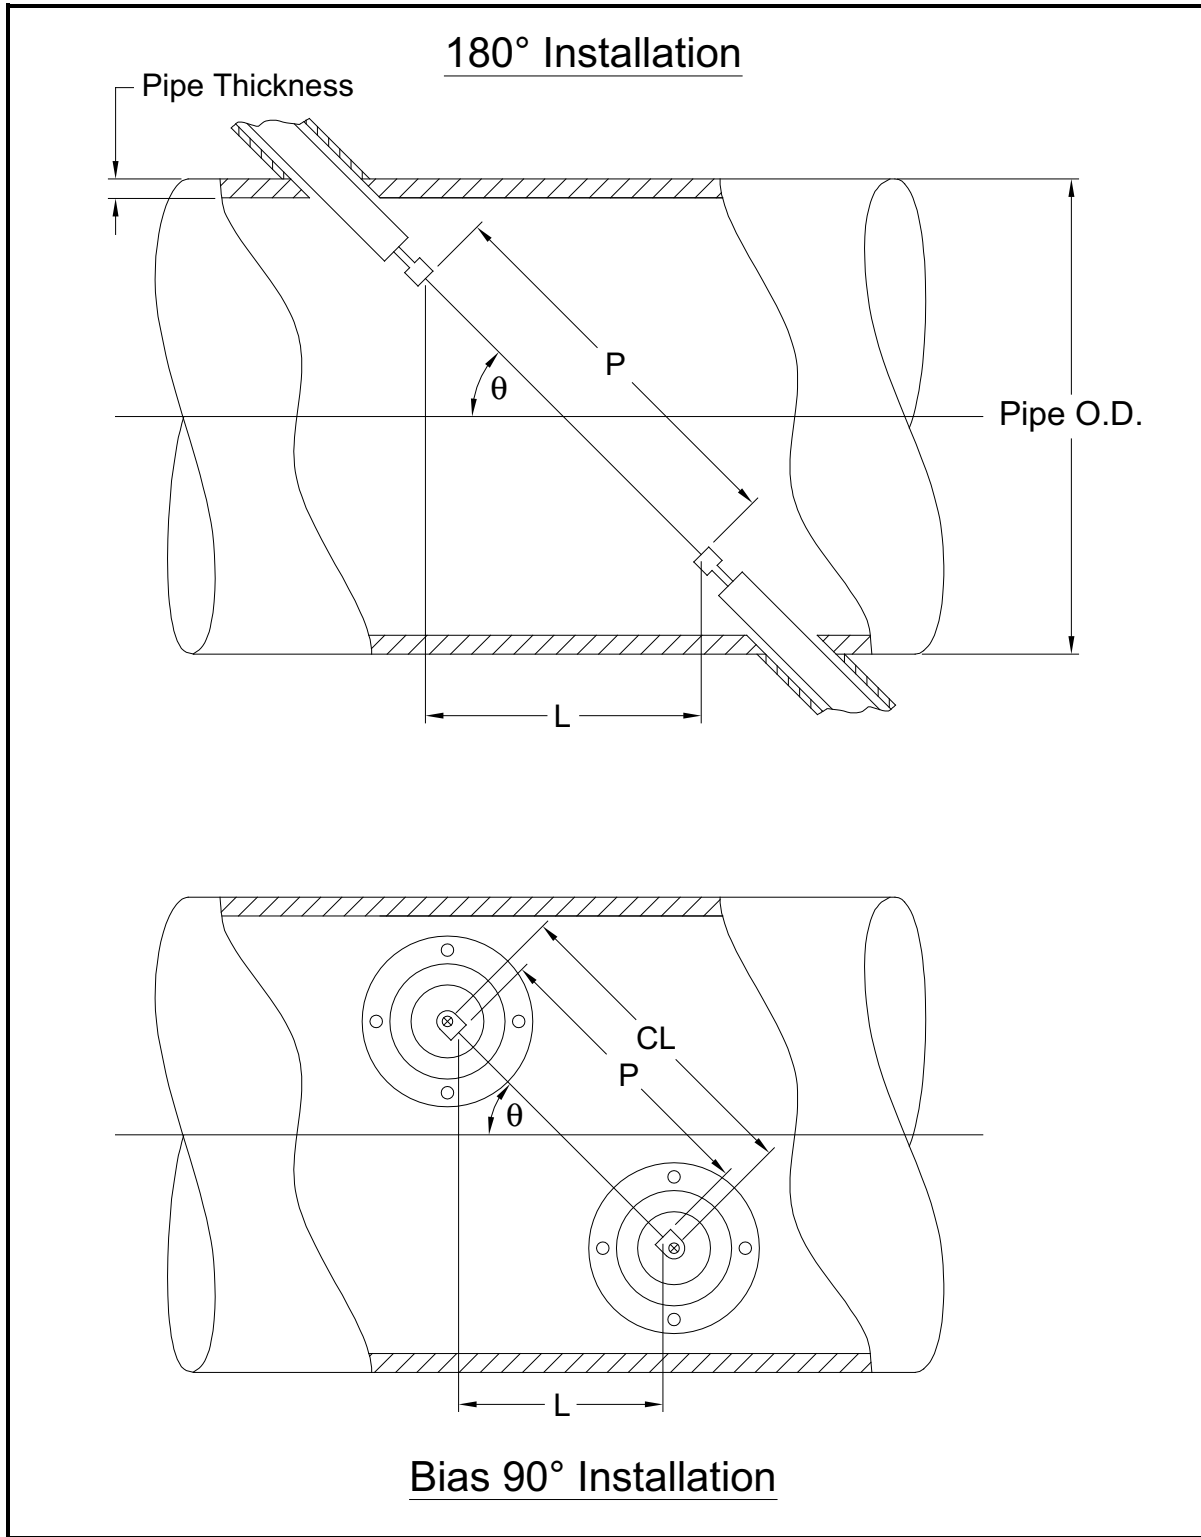

Figure 18: Top View of Typical Transducer Installations
The accuracy of the programmed P and L values is critical to precise flow rate measurements. If GE supplies the flowcell for the system, the correct values will be included in the documentation supplied with the system. For transducers installed on an existing pipe (see Figure 18 on page 66), P and L must be measured at the site. This appendix provides instructions for properly determining these dimensions.
Whenever possible, physically measure the face-to-face distance (P) and the axial distance (L) between the centers of the flat faces of the transducers. Refer to *Figure 18 on page 66* for an illustration of the proper distances to measure, in a typical installation.
With a Bias 90° transducer installation, it sometimes happens that the only known parameters are the transducer angle (θ) and the centerline distance between the transducer bodies (CL). In these cases, it is still possible to calculate P and L by combining *Equation C-1* above with the additional *Equation C-2* below (see *Figure 18 on page 66*):